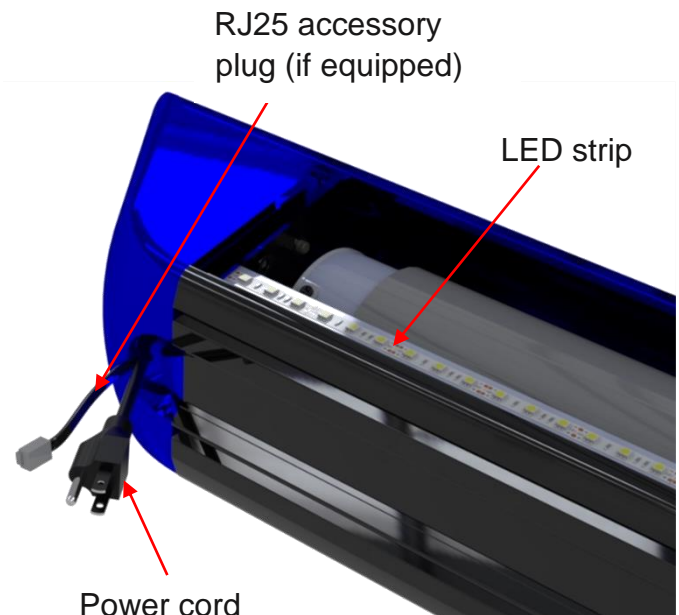

Figure 28: Rear, audience right of case with power cord, RJ25 output (if equipped) and LED strip inside case under the acrylic-glass top
Note: Cabaret may come with one RJ25 male output (if equipped). The maximum length of the RJ25 cable plugged into the unit shall not exceed 50' (see Figure 28).
5. Locate the RJ25 accessory plug cable on the back of the Cabaret on audience right side (see Figure 28).